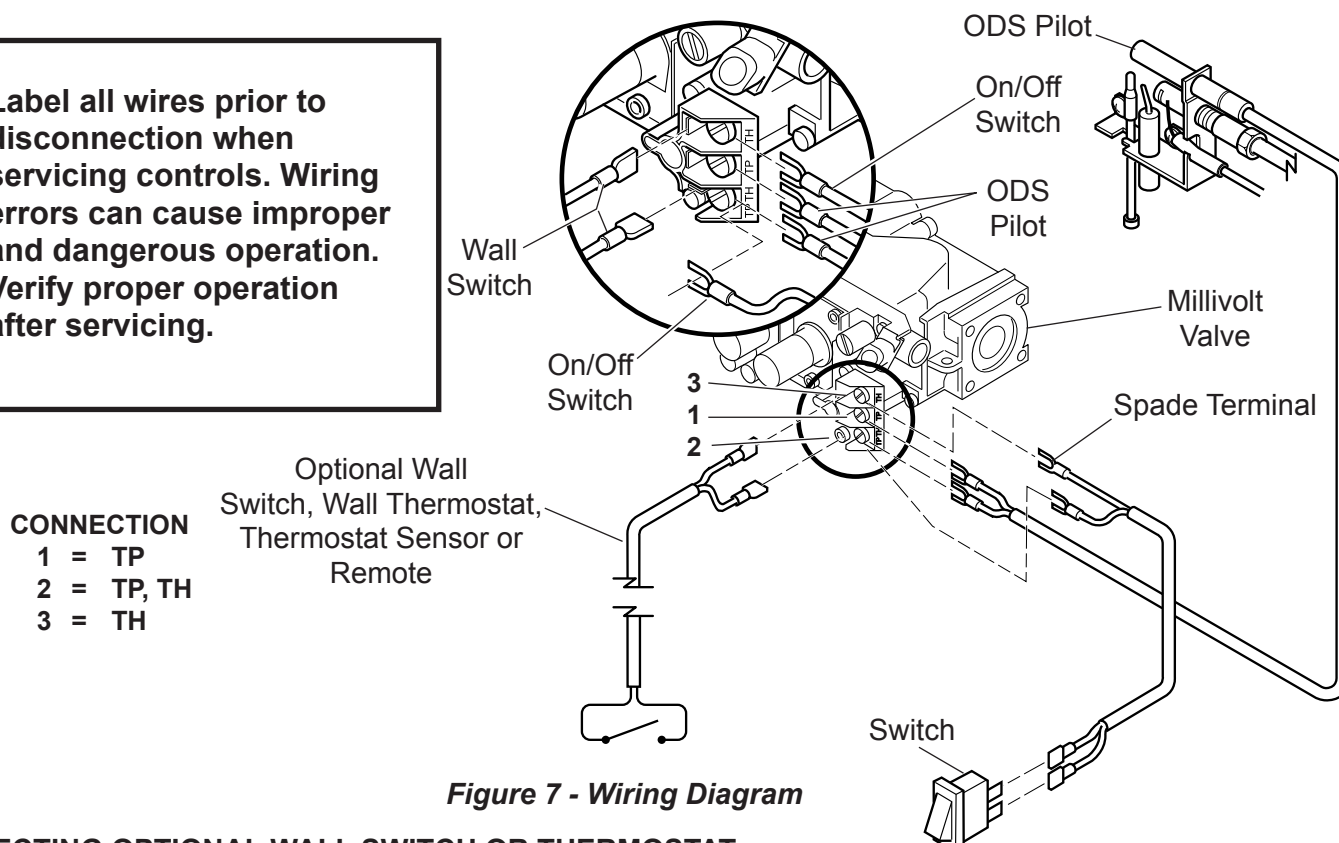
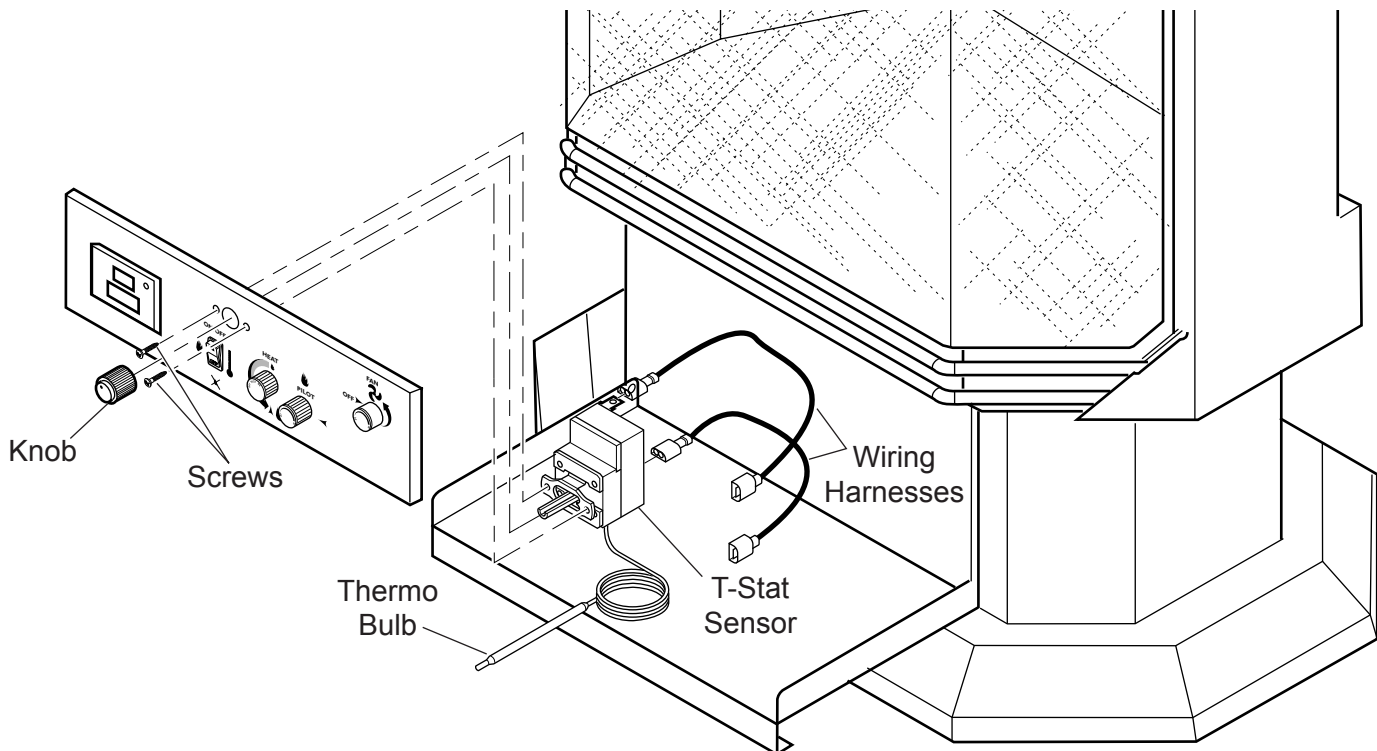

Figure 7 - Wiring Diagram
Figure 9 - Installing T-Stat Sensor and Control Knob
2. Slip the t-stat sensor behind the faceplate. Attach the t-stat sensor to the faceplate with 2 screws provided. Make sure the thermo bulb wire is on the bottom of the t-stat sensor. See *Figure 9*.
3. Attach wiring harnesses to back of t-stat sensor. See *Figure 9*. Attach the other ends of the harness to either TP/TH and TH on control valve or to existing wiring harness with two (2) 0.250" male spade terminals for remote t-stat operation. See *Figure 7*, page 13.
6. Install knob to shaft of t-stat sensor. *See Figure 9, page 14.*